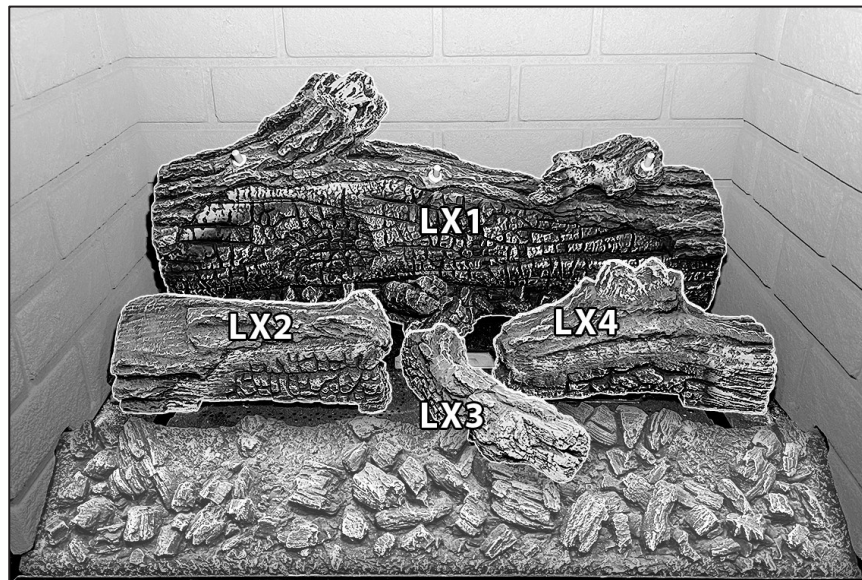

FIGURE 7.3 Base Logs
1. Set log LX1 on the rear log plate, as shown in FIGURE 7.3.
2. Align the holes in the bottom of log LX2 with the studs on the left side of the burner and place log LX2 in to position, as shown in FIGURE 7.3.
3. Align log LX3 with the notch in the ash panel and place into position, as shown in FIGURE 7.3.
4. Align the holes in the bottom of log LX4 with the studs on the right side of the burner and place log LX4 in to position, as shown in FIGURE 7.3.